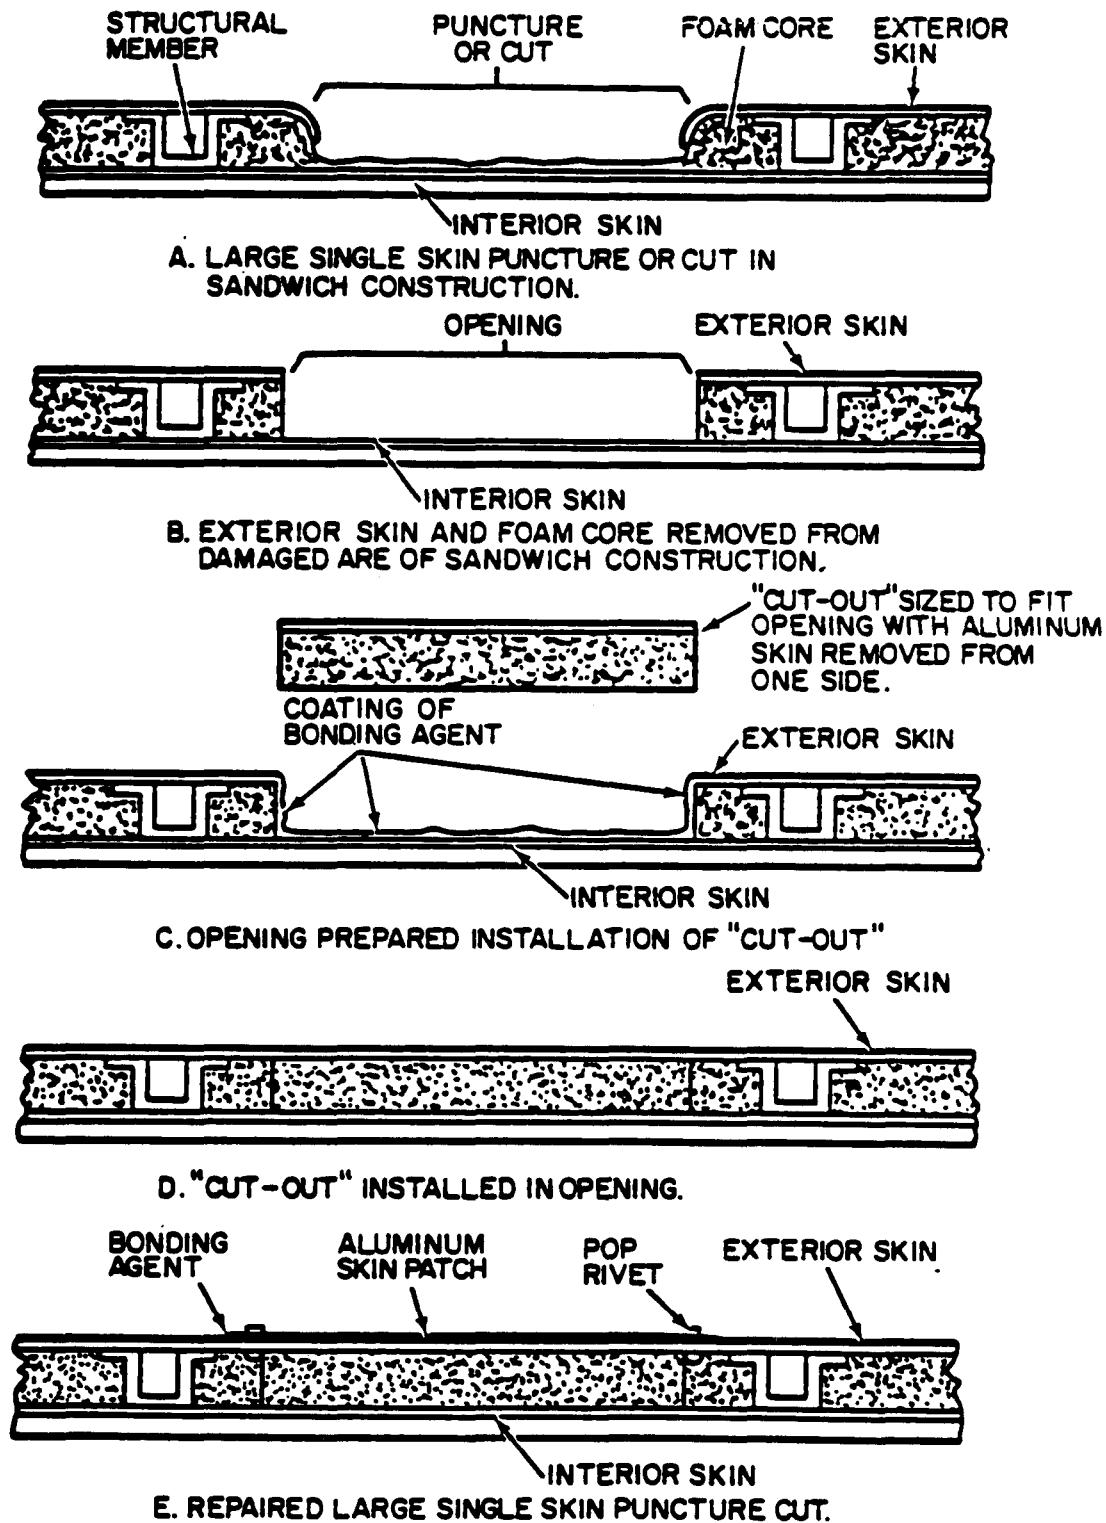

Figure. 4-5. Shelter Wall Repair of Large Skin Puncture or Cut.
#### Repair. (Figure 4-5)
- (1) Select an aluminum skin patch that overlaps the puncture or cut by one inch in all directions.
- (2) Use the aluminum skin patch as a template positioned over the puncture or cut, and lightly scribe the area of the aluminum skin patch on the skin of the shelter.
- (3) Use a saw to cut and remove the punctured or cut skin area approximately one inch within the scribed mark (A and B, Figure 4-5).
- (4) Cut the foam core evenly along the edges where the skin is removed and remove the damaged foam core (B, Figure 4-5), maintaining perpendicular and straight edges.
- (5) Select a piece of block insulation or a cutout of the same type sandwich construction (C, Figure 4-5).
- (6) Size the block insulation or cutout to fit the opening where the skin and foam were removed. If a cutout is used, remove the aluminum skin from one side of the cutout.
- (7) Remove all paint or foreign matter from the overlap area on the skin of the shelter and an area approximately one inch around the scribed mark using emery cloth and cleaner. If the cutout is used, remove all paint or foreign matter from the aluminum skin of the cutout.
- (8) Roughen the skin surface with coarse grit emery cloth. If a cutout is used, roughen the surface of the aluminum skin.
- (9) Coat the interior of the opening where the skin and foam core were removed with mixed adhesive (paragraph 4-7.b.(4)).
- (10) Insert the block insulation or cutout into the opening where the skin and foam core were removed (D, Figure 4-5).
- (11) With the aluminum patch over the puncture area, drill #30 holes, around the perimeter of the patch, 1/2 inch from edge of patch and on one inch centers.
- (12) Coat the exposed block insulation or cutout and the overlap area with mixed adhesive.
- (13) Dip the pop rivets in the mixed adhesive and use the riveting tool for pop rivets to install the aluminum skin patch as shown (E, Figure 4-5).
- (14) Smooth and taper mixed adhesive (squeezed out during the riveting process) along the edges of the aluminum skin patch and immediately remove excess mixed adhesive with cloth saturated in toluene solvent.
- (15) Prime and paint the repaired surface. (Refer to paragraph 4-12.)
- (16) Inspect the repaired area to ensure that rivets and paint were applied correctly.